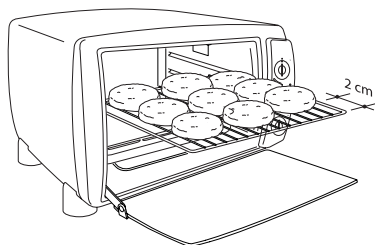
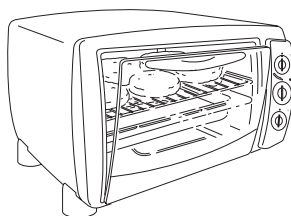

fig. 1
fig. 2
Place the food being grilled directly on the wire rack and the dripping pan (N) in the centre guide (2) as shown in Figure 1. Leave the door ajar as shown in Figure 2. Pour a glass of water into the dripping pan (N) to make cleaning easier and prevent smoke being produced by the burning fat.
Important: for best results, place the food on the wire rack (O), leaving an empty space of around 2cm near the door (see Figure 1).